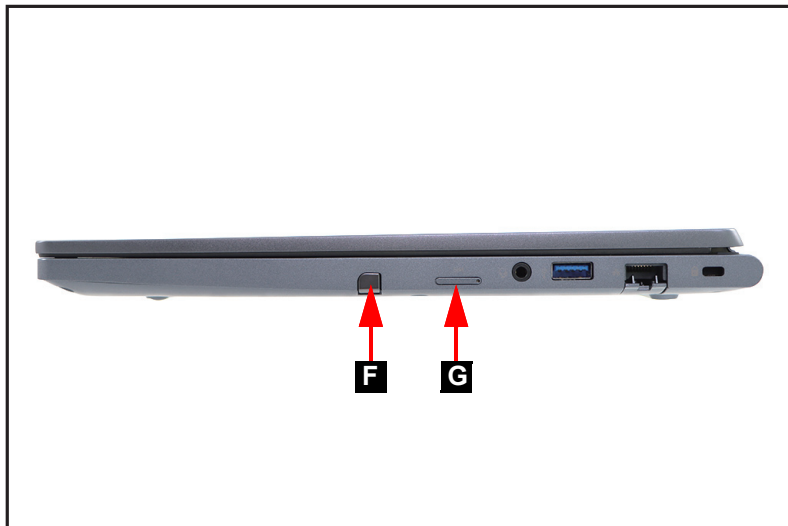

Figure 1-3. Stylus and SIM Card Removal
5. Remove the stylus from the stylus slot (F) (Figure 1-3).
6. Insert the eject tool into the hole on the SIM card tray (G). Then push to eject the card tray and remove the SIM card (LTE SKU only) (Figure 1-3).